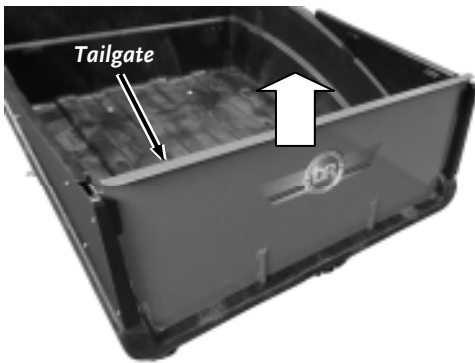

Figure 35
2. Remove the Tailgate (Pro Model only) (**Figure 35**).